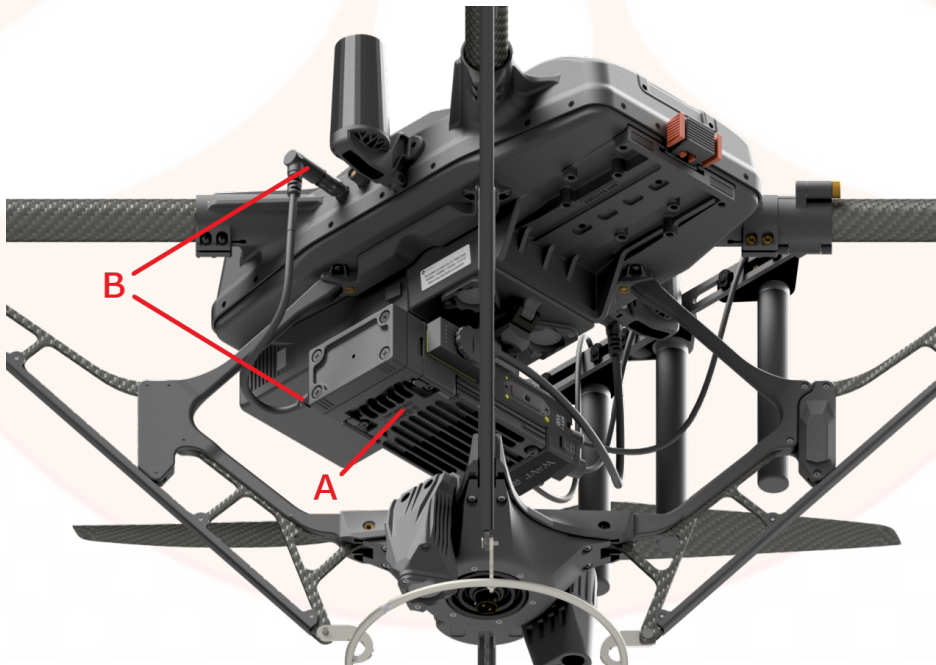

Figure 25: MPU5 Radio Installation 1
2. Slide the plate and radio onto the aircraft Picatinny Rail following the 'Universal Radio Plate Installation' instructions above (**Figure 25, A**).
3. Connect the HL, Battery Eliminator 10.8V Power Cable Assembly to the back of the radio and then plug it into the aircraft **P1** connector (**Figure 25, B**).